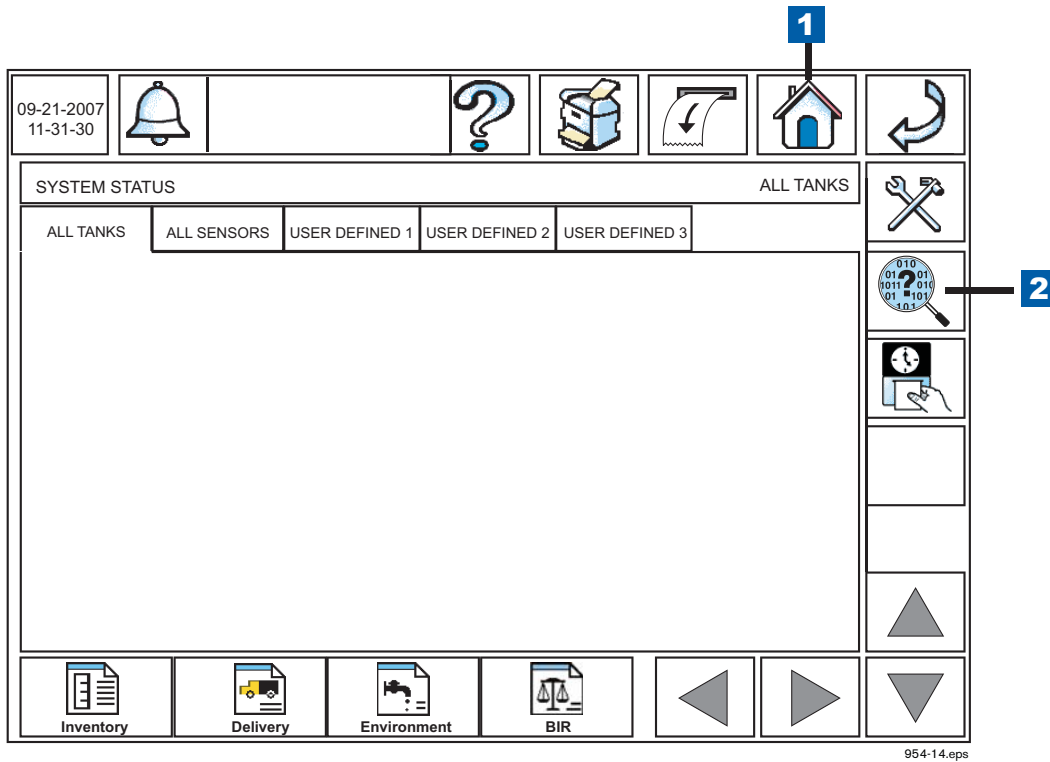

Figure 2. Accessing Diagnostic Main Screen From The Home Screen
- 2. Touch the Diagnostics button on the Home Screen (see item 2 in Figure 2).
LEGEND FOR NUMBERED BOX IN Figure 2